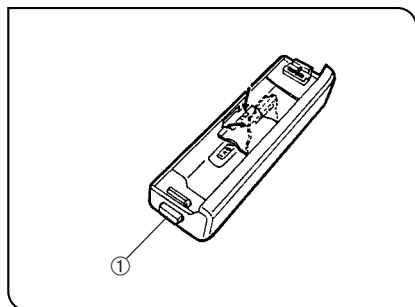

Fig. 31
#### Loading Batteries (Figs. 31 & 32)
1. Press the battery unit release button ① and remove the battery unit.
2. Open the battery holder plate as shown in Fig. 31. (When replacing batteries, removal is easier if you use a pointer object such as the tip of a mechanical pencil as a lever.)